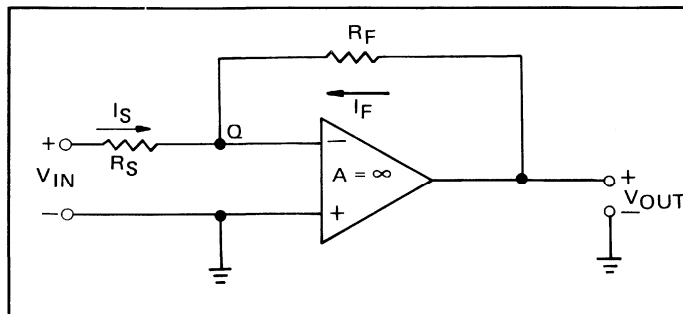

Figure 1. The “Ideal” Operational Amplifier as a Feedback Amplifier.
The key features of operational amplifier application can be illustrated using the simple feedback circuit of Figure 1, and assuming that the operational amplifier has infinite gain and infinite input impedance. Then, the following two conditions have to be satisfied:
- Since the voltage gain is infinite, the net voltage across the input terminals of the operational amplifier must be zero, if the operational amplifier output voltage is to be finite. In the circuit of Figure 1, this causes the inverting input terminal of the operational amplifier to behave as a “virtual ground”.
- Since the input impedance of the ideal operational amplifier is infinite, no input current is drawn by the operational amplifier, the total current going into the circuit node connected to the inverting input of the operational amplifier (node Q in Figure 1) must be equal to the total current coming out, i.e.: